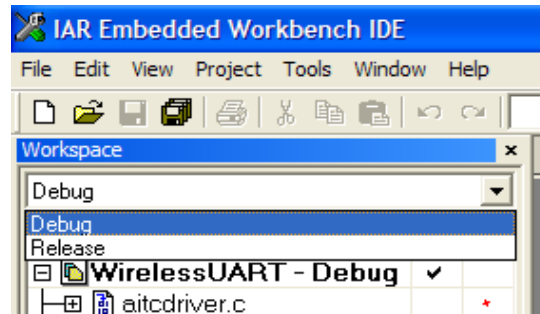

Figure 1-12. IAR Embedded Workbench Work Space Debug and Release Window
- To debug an application select “Debug“ at the Work space window as shown in Figure 1-12.